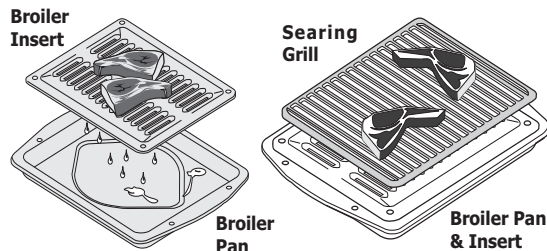

Figure 6: Optional broiling accessories
- Always use a broiler pan and its cover when broiling. It allows the dripping grease to be kept away from the high heat of the broil element (Figure 6).